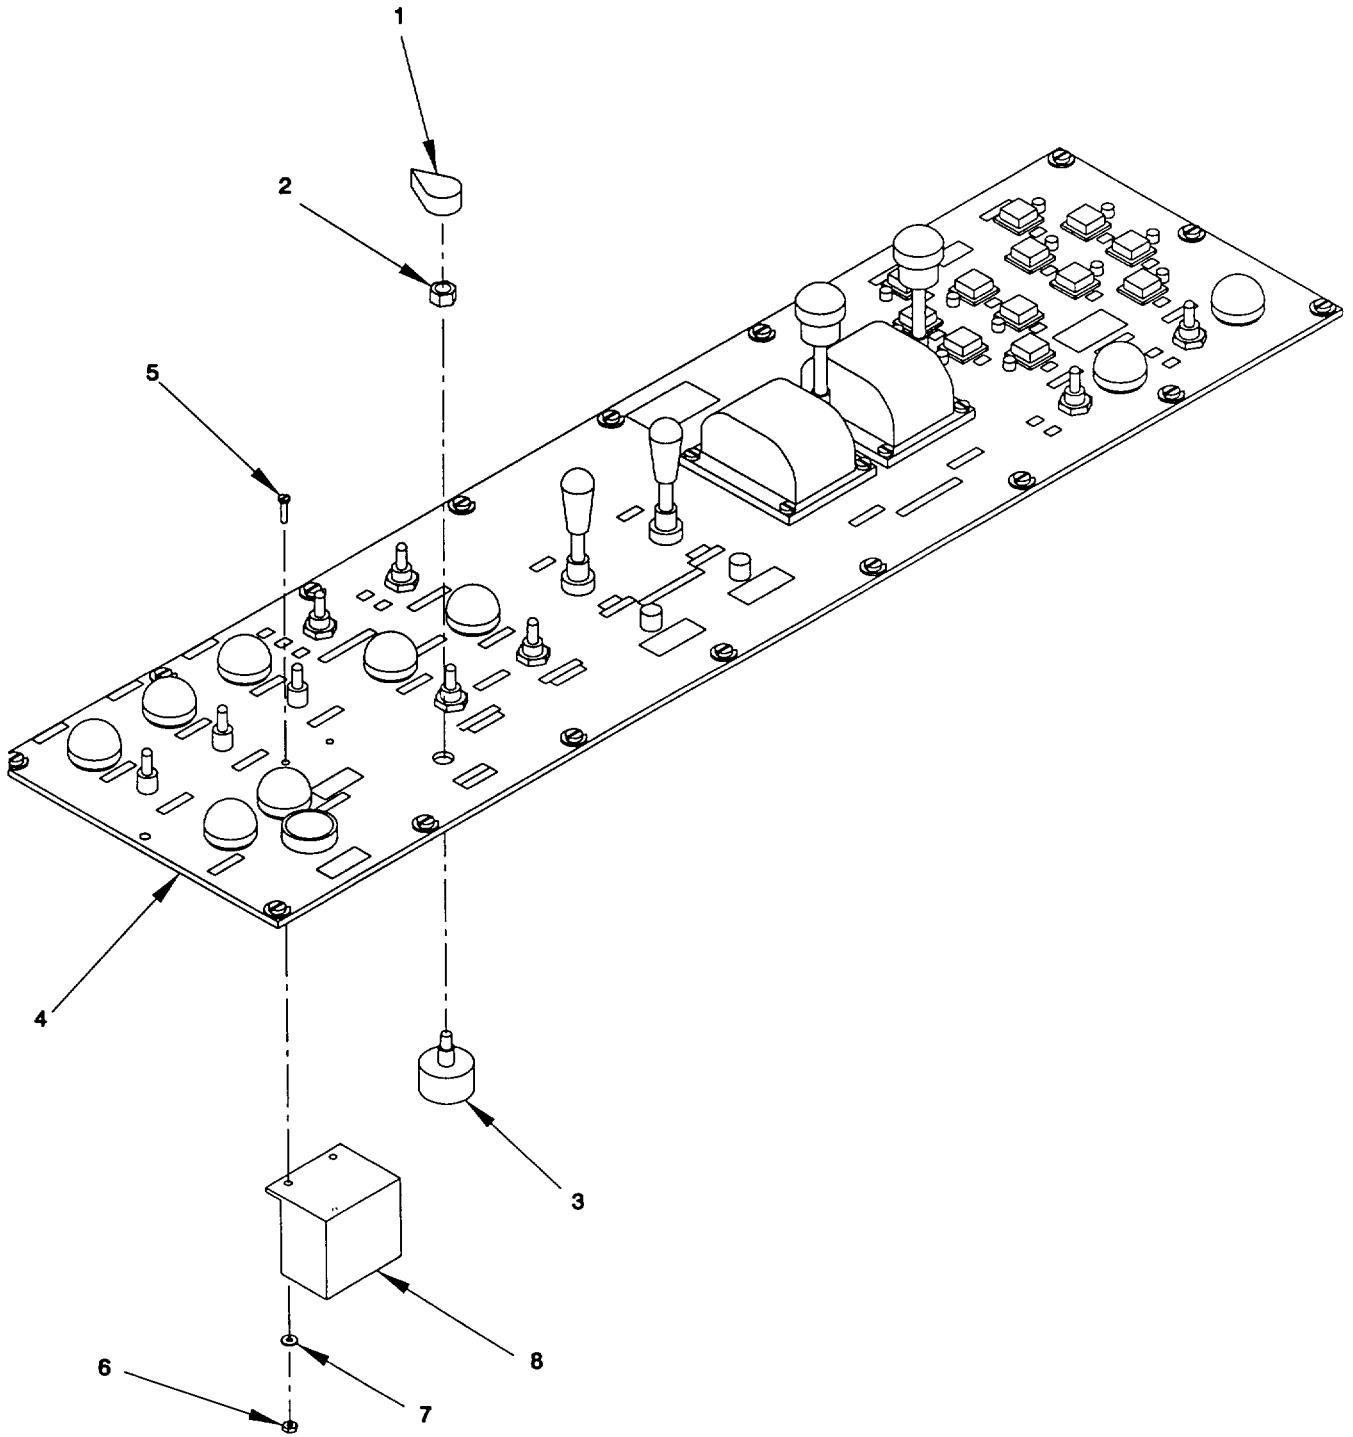

Figure 2-125. Dimmer, Lower Control Panel "A2", Remove/Install.
a. Remove. (figure 2-125)
- (1) Tag and disconnect electrical wiring to dimmer rheostat (3) and power controller (8). Refer to Appendix G.
- (2) For removal of the dimmer control R1 rheostat (3), loosen the setscrew in the control knob (1) and remove the knob (1).
- (3) Remove the hex nut (2) from the top of the rheostat (3) and pull the rheostat (3) through the under side of the lower control panel (4).
- (4) For removal of the dimmer control R1 power controller (8), remove the two pan head screw (5), two hex nuts (6) and two lock washers (7). Remove power controller (8) from under side of lower control panel (4).
b. Install. (figure 2-125)
- (1) Position dimmer control R1 power controller (8) on under side of lower control panel (4). Secure with two pan head screw (5), two lock washers (7) and two hex nuts (6).
- (2) Position dimmer control R1 rheostat (3) on under side of lower control panel (4). Secure with hex nut (3) from the top side of the lower control panel (4).
- (3) Position control knob (1) on rheostat (3). Tighten setscrew in control knob (1) to secure.
- (4) Reconnect electrical wiring, as tagged to rheostat (3) and power controller (8). Refer to Appendix G. Use tie wraps and mounting bases to secure any loose wiring.